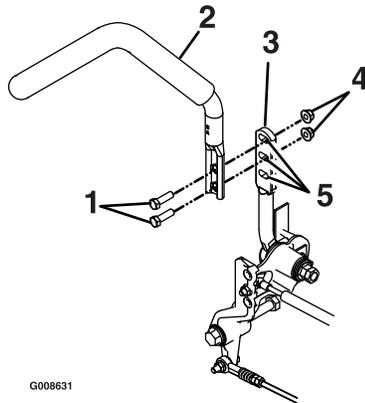

Figure 48
1. Remove the two bolts holding the control lever to the control arm shaft (Figure 48).
2. Loosen the lower bolt just enough to pivot the control lever fore or aft Figure 48. Tighten both bolts to secure the control in the new position.